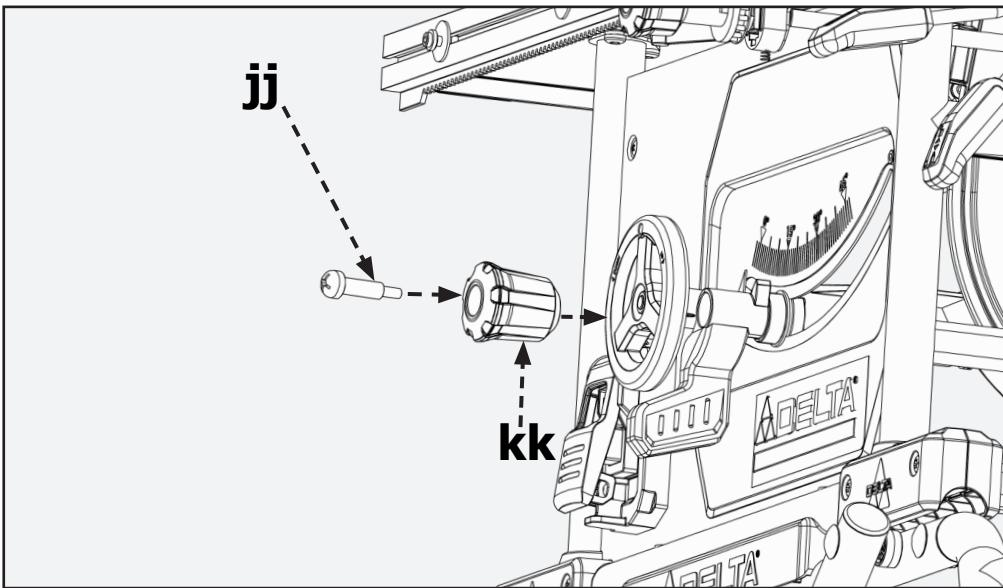
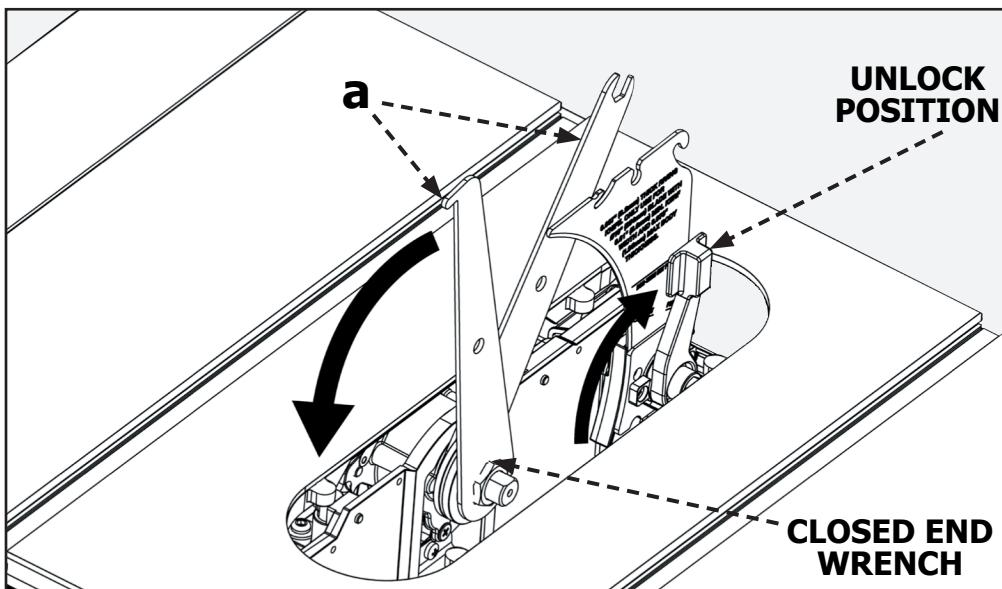

FIGURE 11
FIGURE 12
1. Insert wheel handle shoulder screw (jj) into height adjustment wheel knob (kk) as shown in Figure 11.
After installing height adjustment knob as shown in Figure 11, raise motor/arbor assembly to the upper most position to provide easy access to riving knife lock lever and arbor assembly. Ensure riving knife lock lever is in unlock position. See Figure. 12. Detach the on-board wrenches located on the right side of the saw by loosening and removing M8 wing nut. Place the open-ended wrench (a) on the spindle shoulder between the arbor flange and inner flange. Place the closed end wrench (a) over the arbor nut. Holding the spindle shaft in place, loosen and remove the arbor nut and arbor flange. See Figure 12. **NOTE:** Use only 10" (254 mm) diameter blades with 5/8" (16 mm) arbor holes, rated at 5,000 rpm or higher, 0.10" (2.6 mm)min. kerf width and 0.073" (1.85 mm) max body thickness. Only use 10 in. blades designed for woodcutting. Use only a saw blade diameter in accordance with the markings on the saw.